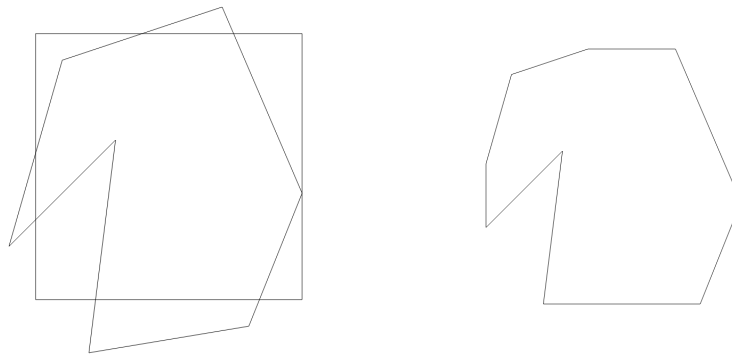

Fig 1. Test Polygon Clip Algorithm. Left: Input. Right: Output.
1. I started with polygonClip function which receives a subject Polygon and a clipPolygon. The output is a Polygon clipped from the subject Polygon conforming with the shape of a clipPolygon. Figure 1 shows an example test case for this method.